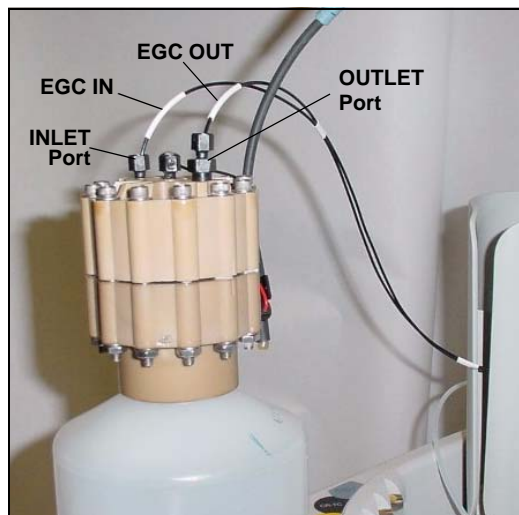

Figure 5-49. Disconnect the EluGen Cartridge Inlet and Outlet Port Lines
8. Disconnect the **EGC IN** and **EGC OUT** lines from the **INLET** and **OUTLET** fittings on the EluGen cartridge (see Figure 5-49).